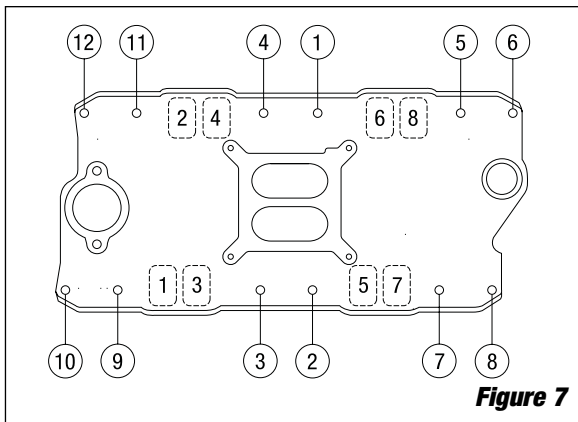
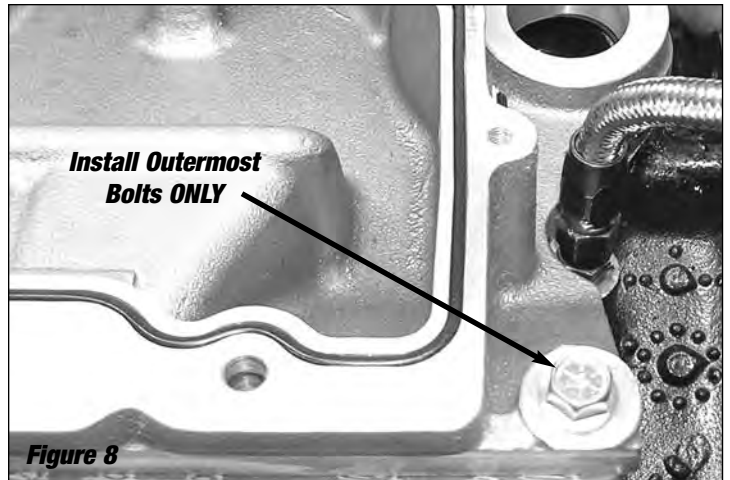

Figure 7
Figure 8
Torque bolts to 25 ft./lbs. Follow the sequence shown in **Figure 7**. For E-Tec/Vortec applications, install the four (4) outermost bolts ONLY, and DO NOT TIGHTEN. Snug these bolts by hand with a small box-end wrench. This will keep the manifold steady while installing the supercharger and manifold top plate assembly **(See Figure 8)**.